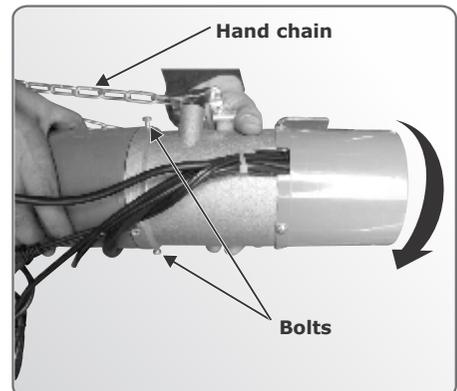

FIGURE 28
10. Always ensure that the hand chain hangs vertically. If the operator cannot be mounted in a way that facilitates this, the chain housing can be swivelled by loosening the three M8 bolts as shown in Figure 28.